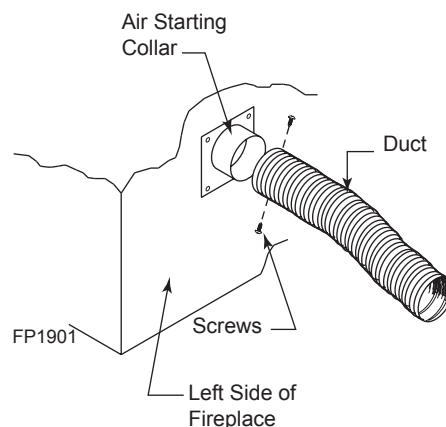

Figure 38 -
6. Select and cut a piece of duct long enough to attach to the fireplace and stick out at least 3" beyond the face of the wall to which the AK-4 inlet air vent will be attached. *Figure 38*